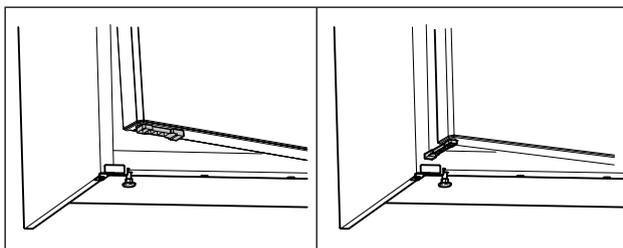

Fig. 63 *
- ▶ Turn the door opening limiter 90°. (see Fig. 63) *